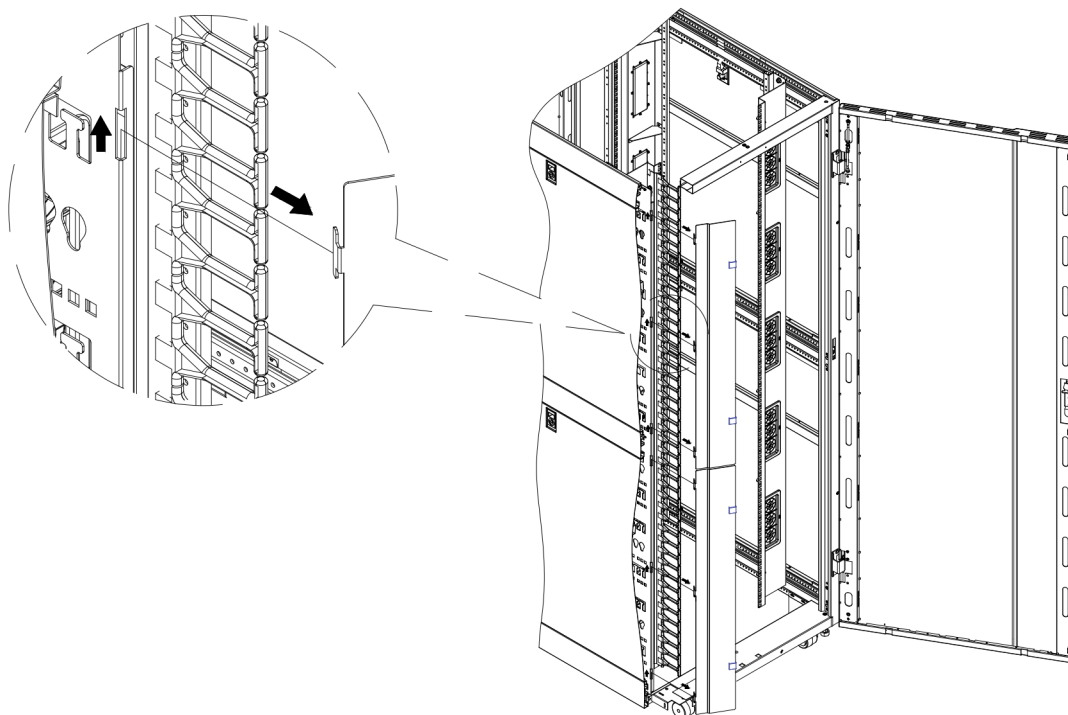

Figure 6.5.1
- Open the hinged cover and lift up slightly to remove it from the lashing panel. (Figure 6.5.1)